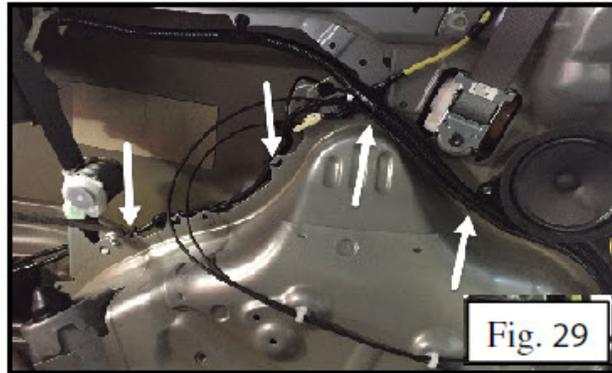

Fig. 29
15. Continue routing the harness up over the wheel well, using cable ties (white arrows) to secure to the existing harness as shown (Fig.29).